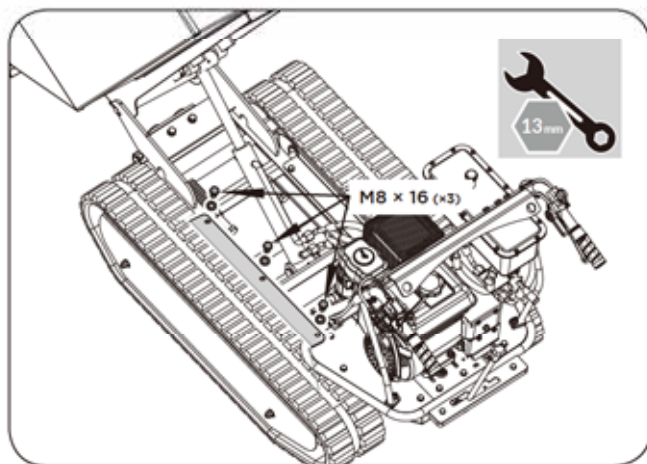

Figure 11b
3. Remove the three M8×16 bolts and washers that fix the track protection guard. (See **Figure 11b**)